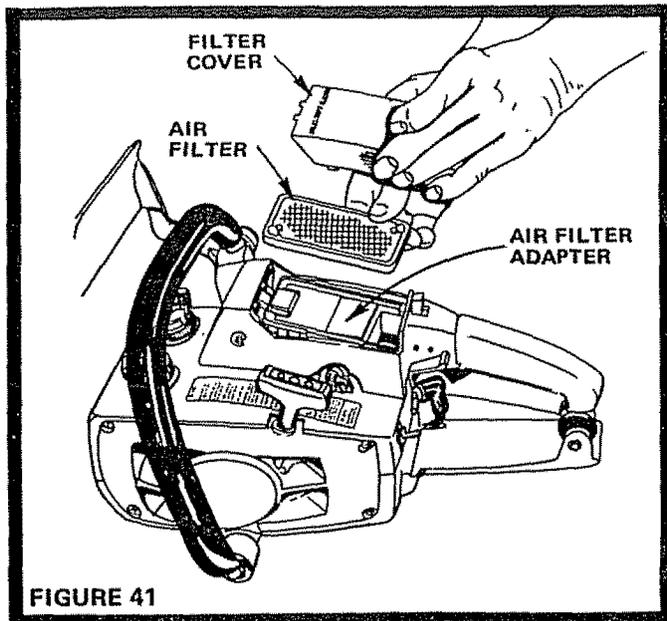

FIGURE 41
1. To remove Filter Cover, squeeze lower 1/3 portion of Cover and raise up as shown (Fig. 41).
2. Remove and clean Air Filter with compressed air or a brush. Wipe Air Filter Adapter clean (Fig. 41).